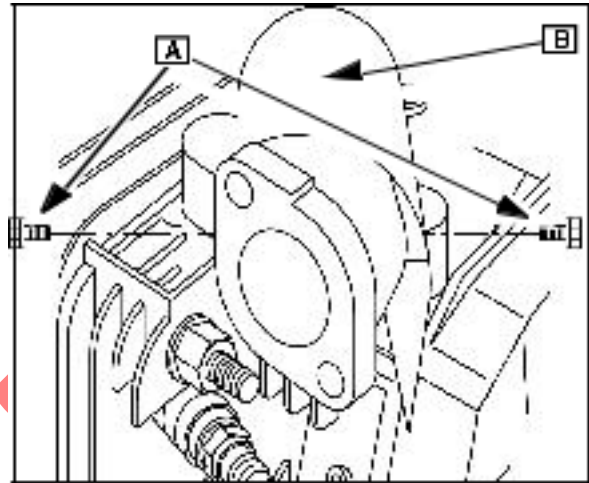

Fig. 8
Take off the two screws (A) that hold the exhaust elbow shield ([B] Fig. 8) and remove shield.